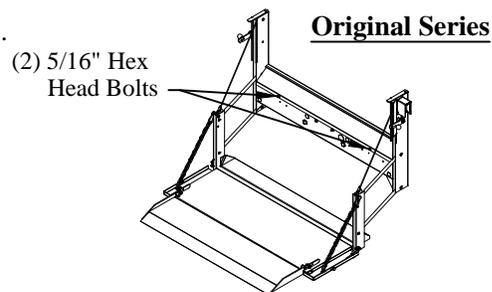

Figure 15: Box cover locations.
5. **Remove** the box cover by removing the 5/16" hex head bolts or nuts (Figure 15).